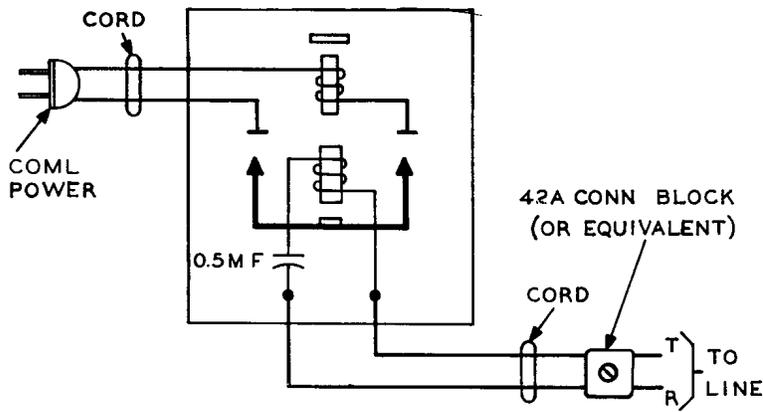

Fig. 2 - Typical Relay-equipped Signal Connections
2.02 Connections for typical relay-equipped signals are shown in Fig. 2.